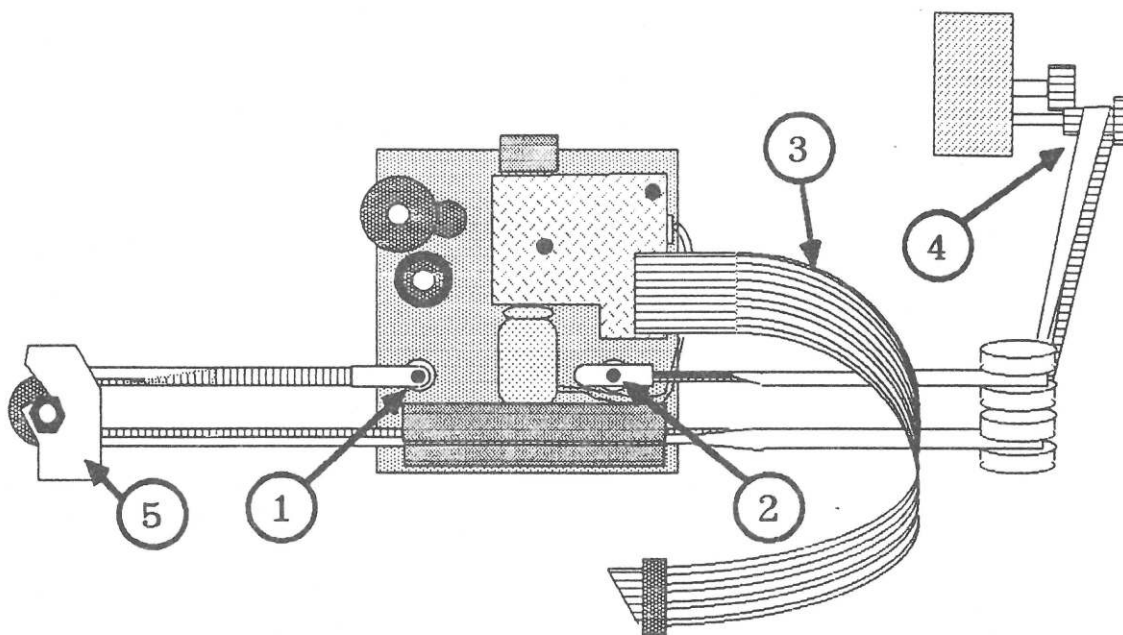

Figure 5
1. Attach either end-piece of the new drive belt to the right-hand mounting hole in the carriage assembly (Figure 5, #2) as follows:
- b) Align the hole near the **midpoint** of the belt end-piece with the right-hand mounting hole in the carriage assembly (see Figure 5, #2).
2. Route the belt as in Figure 5:
- behind the wide plastic cable (Figure 5, #3);
- around the carriage drive pulley (Figure 5, #4);